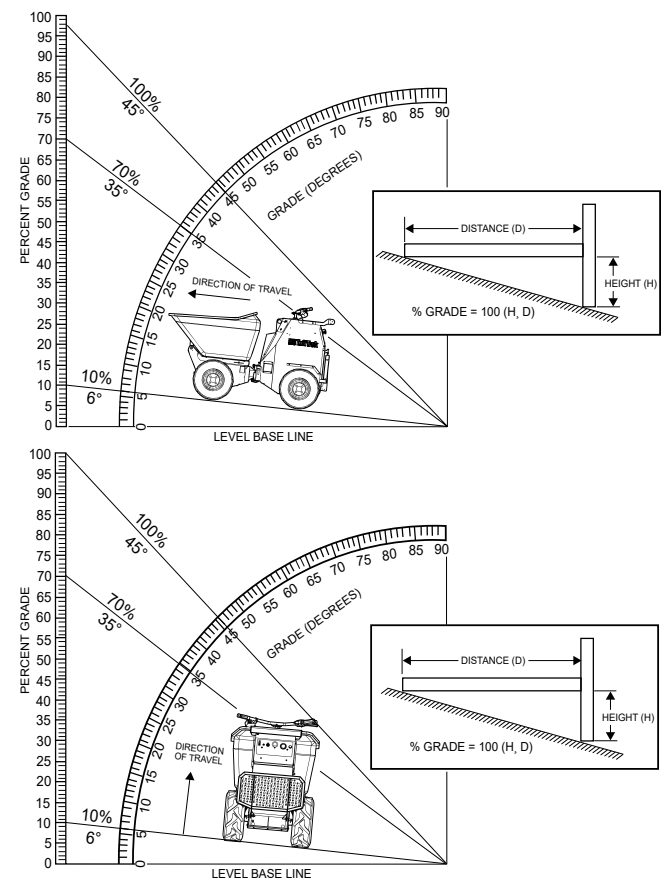

Figure 16. Determining Grade of Slope
1. When traveling on a slope, it is necessary to determine the grade of the path. The buggy can travel up or down slopes not exceeding 25° (Figure 16) . **DO NOT** travel on steeper slopes.
To determine the % grade of your path of travel, use the formula and graph in Figure 16.